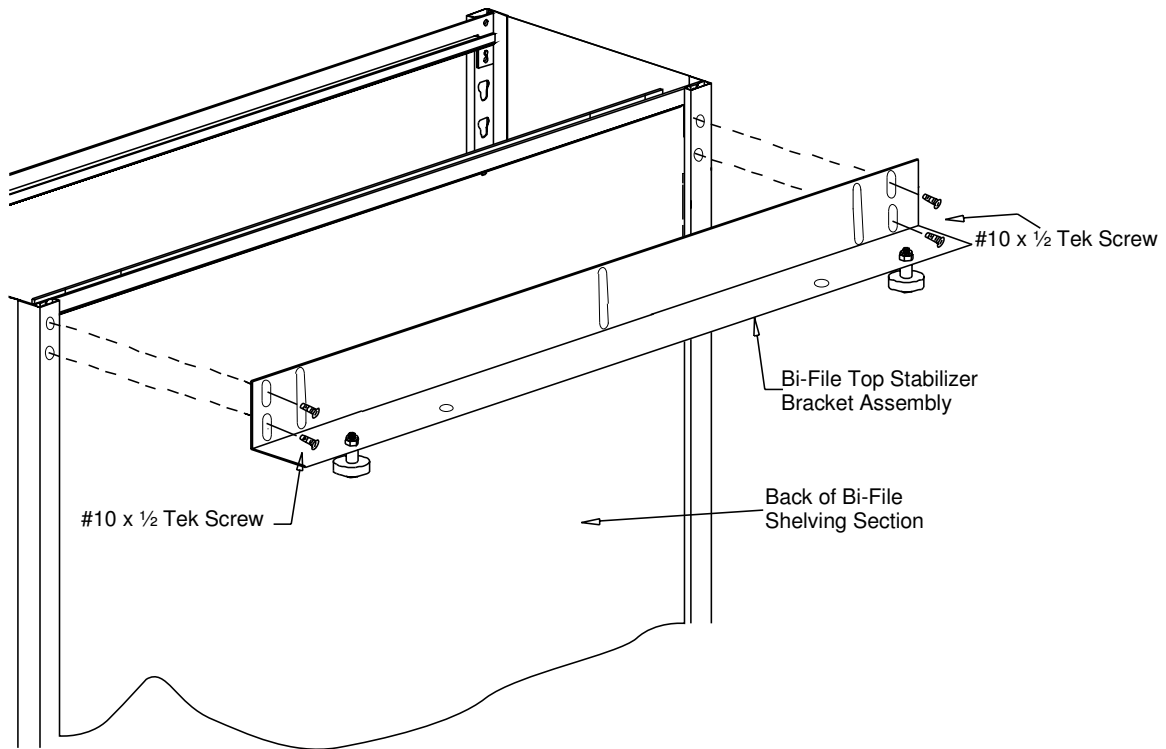

FIGURE 6
- STEP 1** Fasten the Bi-File Top Stabilizer Bracket assembly to the top back of each Bi-File Shelving sections by using four (4) #10 x 1/2 Tek screws. ***See Figure 6.***